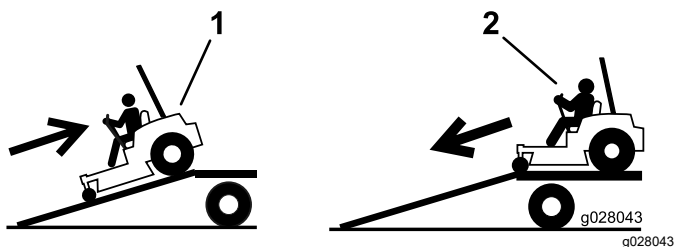

Figure 39
4. Back the machine up the ramp (Figure 39).
2. Drive the machine forward down the ramp (Figure 39).